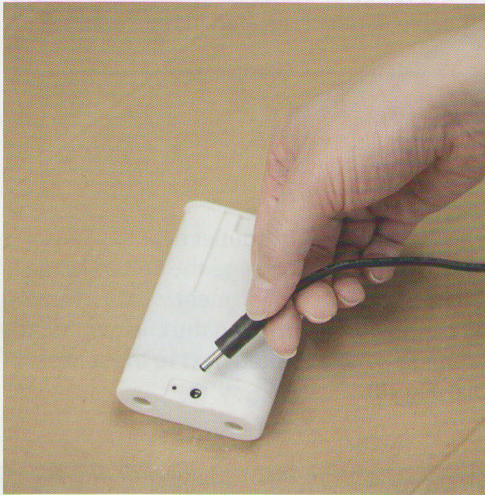

Fig. 21
3) Plug in the A/C power adaptor to the hole on the Battery and charge it in any electric outlet. (Fig.21)